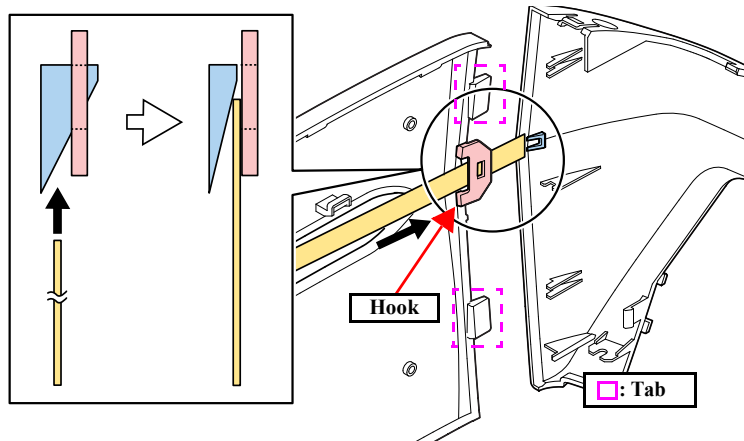

Figure 4-18. Disengaging the Hook and Tabs
3. While pushing , disengage the two tabs, and slide the Right Housing rearward to remove it. (Refer to Fig.4-18)